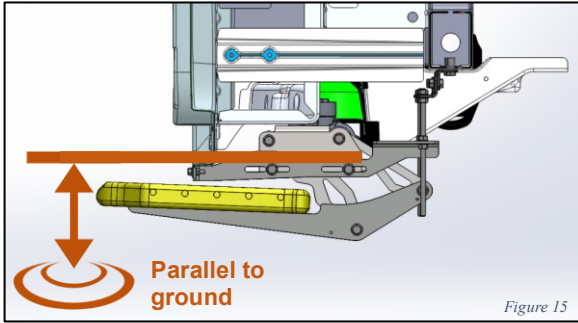

Figure 15
Step 8: Adjust the step so that it is horizontal under the vehicle (Fig. 15 – 17).